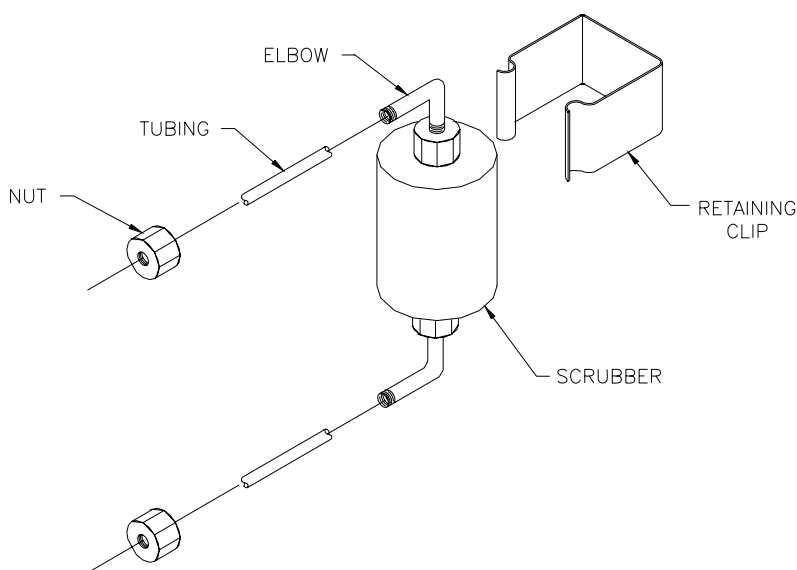

Figure 9. Scrubber Replacement
3. Remove the scrubber from the retaining clip. See Figure 9.